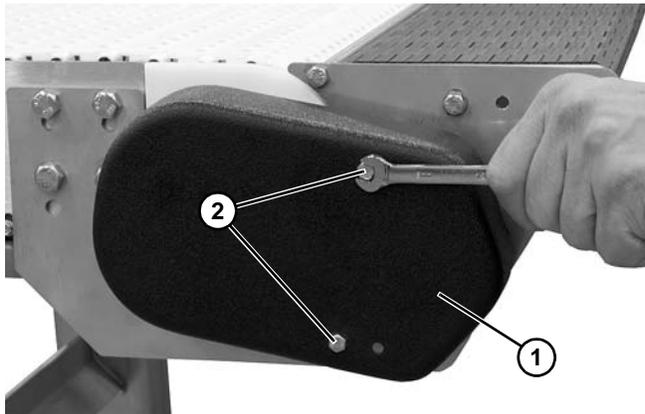

Figure 78
13. Install cover (Figure 78, item 1) with two hex head screws (Figure 78, item 2).